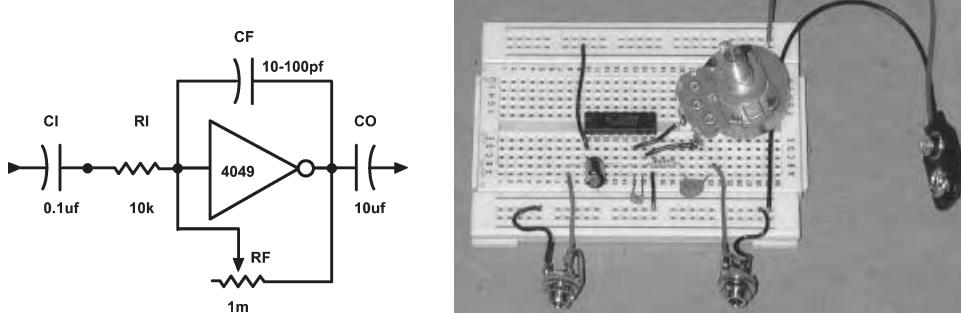

Figure 23.4 Adding a feedback capacitor.
You may notice some noise or high frequency oscillation at very high gain. You can minimize these unwanted artifacts by putting a *very* small feedback capacitor (CF) in parallel to the feedback resistor as shown in figure 23.4. Try values in the range of 10–100 pf(picofarad)—the “small” 0.1uf capacitors we have been using in our oscillators are *way* too big.